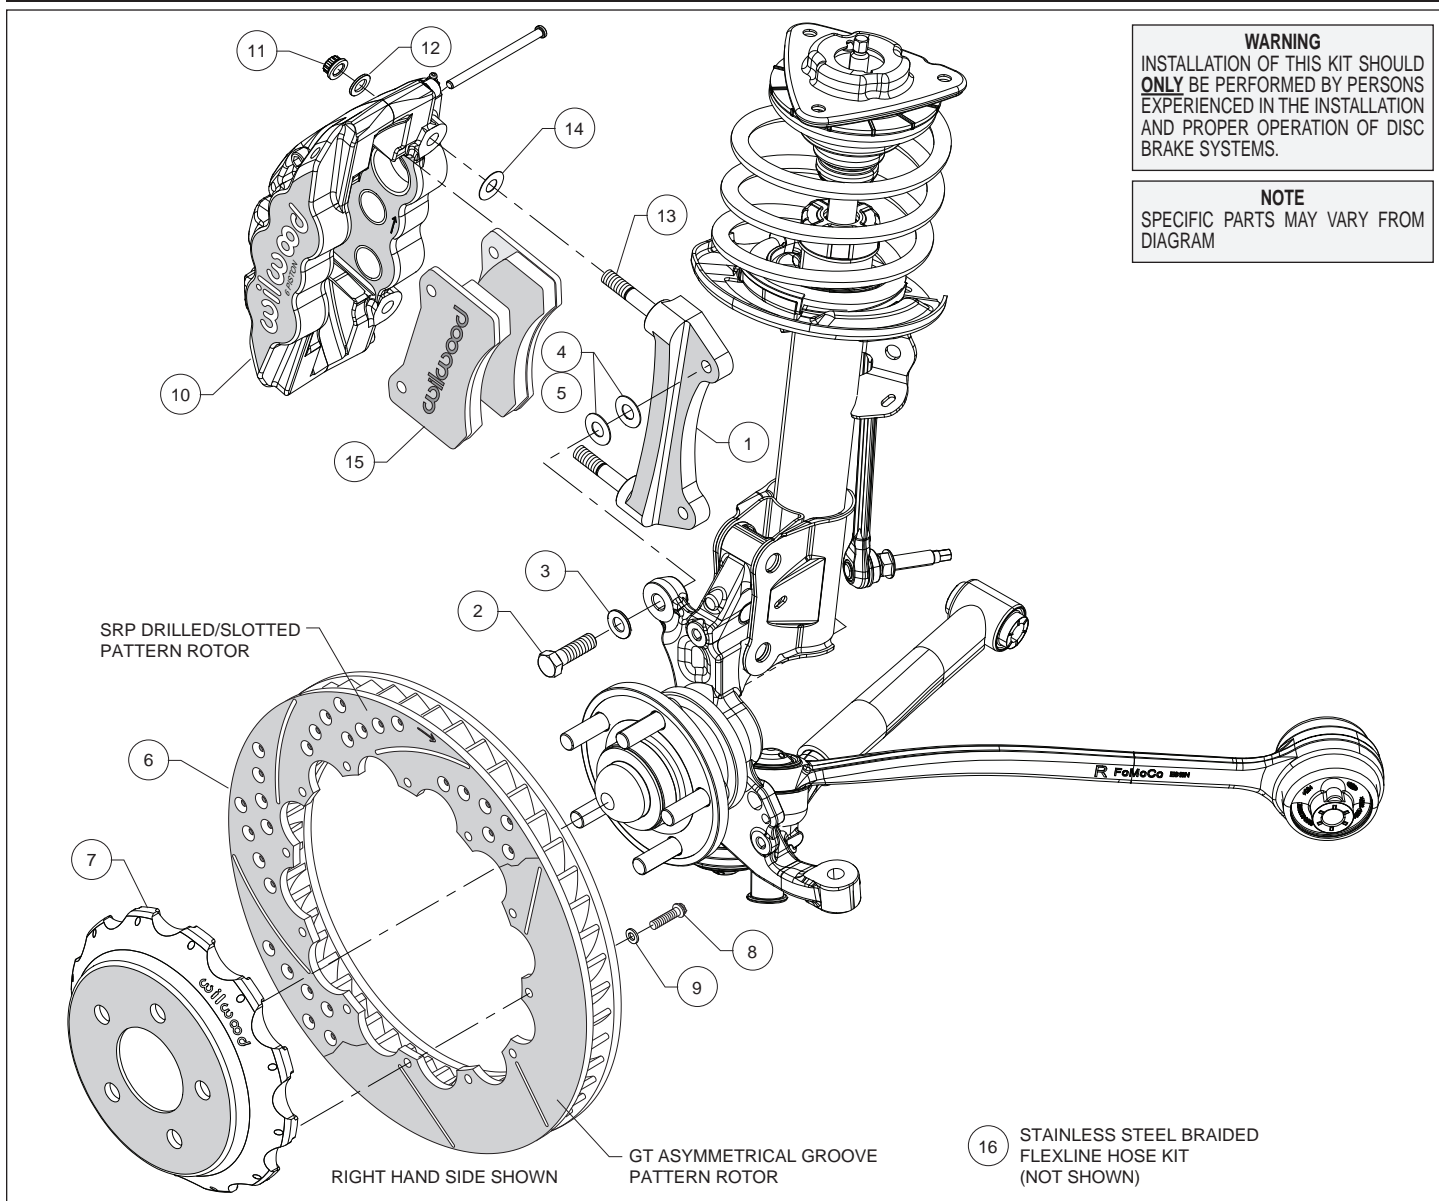
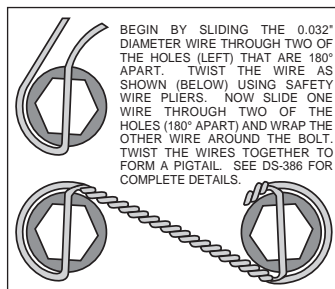

Figure 1. Typical Installation Configuration
Figure 3. Safety Wire Diagram
Assembly Instructions (numbers in parenthesis refer to the parts list and Figure 1 on the preceding pages):
- The caliper mount bracket (1) should initially be installed with clean, dry threads on the mounting bolts. Orient the bracket, as shown in Figure 1 and Photo 1, and install using bolts (2) and washers (3). Initially place two .033" thick shims (4) on each bolt between the bracket and upright, Figure 1. Temporarily tighten the mounting bolts. **NOTE:** *The bracket must fit squarely against the mount bosses on the upright.* Inspect for interference from casting irregularities, machining ridges, burrs, etc. Later, after the caliper alignment has been checked, the mount bolts will be secured using red *Loctite*[®] 271.
- Orient the rotor (6) and the hat (7) as shown in Figure 1 and Photo 2. Attach rotor to hat using bolts (8) and washers (9). Using an alternating sequence, apply red *Loctite*[®] 271 to the threads, and torque to 155 **in-lbs**. For an added measure of security, the bolts may be safety wired using standard 0.032 inch diameter stainless steel safety wire as shown in Figure 3. Refer to Wilwood's data sheet DS-386 (available at www.wilwood.com/Pdf/DataSheets/ds386.pdf) for complete safety wire installation instructions.
- NOTE:** *This kit contains distinct right and left hand calipers that must be mounted in a specific direction, as described below.* Lubricate the caliper mounting studs (13) with lightweight oil. Initially place one .030" thick shim (14) on each stud between the caliper and the bracket, as shown in Figure 1 and Photo 4. Mount the caliper (10) onto the bracket (1) using lock nuts (11) and washers (12), Figure 1. Temporarily tighten the lock nuts. Ensure that the caliper is mounted so the largest pistons are at the rotor exit end of the caliper, in relation to the direction of the rotor. View the rotor through the top opening of the caliper. The rotor should be centered in the caliper, Photo 5. If not, adjust by adding or subtracting shims (4 and/or 5) between the bracket and the upright. Always use the same amount of shims on each of the two mounting bolts. Once the caliper alignment is correct, remove the bracket mounting bolts one at a time, apply red *Loctite*[®] 271 to the threads, and torque to 60 ft-lbs.
- Remove the two pad retaining pins from the caliper (10) by carefully popping out the pin retaining clips and sliding out the pins. Insert the brake pads (15) into the caliper from the bottom, Figure 1 and Photo 6. With the friction material facing the rotor, secure the brake pads in place with the pad retaining pins and clips, Photo 7. Reinstall the caliper onto the caliper mounting bracket and temporarily tighten the lock nuts. Check that the top of the brake pad is flush with the outside diameter of the rotor, Photo 8. If not, adjust by adding or subtracting shims (14) between the caliper and the bracket. After the caliper pad height is set, torque the caliper lock nuts (11) to 47 ft-lb.